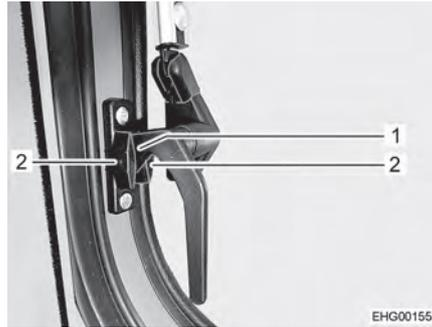

Fig. 43 Catch lever, on the side ("continuous ventilation" position)
- Turn the catch levers on the side a quarter turn downwards. While doing so, drive locking catch (Fig. 43,1) in between the two halves of the locking block.